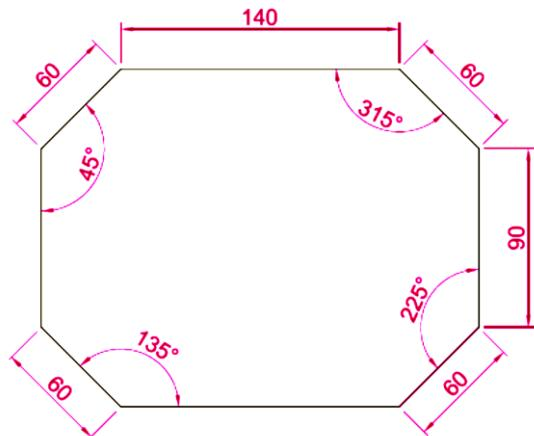

Fig.9.4
3. using the Line tool, construct the outline shown in Fig.9.4.